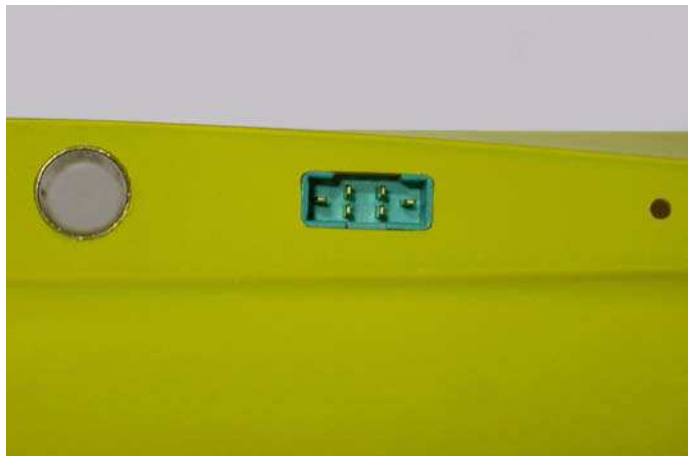

Fig.63: Socket in position.
- spread some epoxy around the socket "MPXF" and insert it into the proper housing in the fuselage as shown in figure 63;